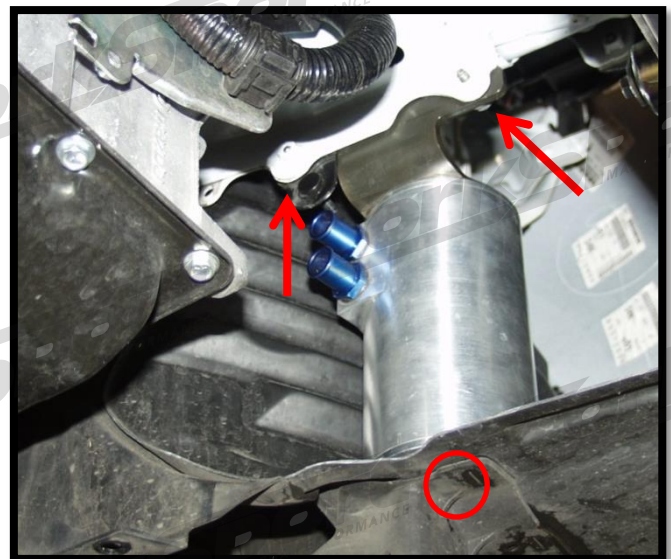

Figure 2e
- e) Install the catch can (as shown) using the two (2) supplied M6x1.0x20 bolts (Figure 2e).
- f) **OPTIONAL:** Drill a ¾" hole into the fender liner directly below the catch can for drain access (red circle in Figure 2e).
- e) **Install the catch can** (as shown) using the two (2) supplied M6x1.0x20 bolts (**red arrows** in **Figure 2e**).
- f) **OPTIONAL: Drill a ¼" hole** into the fender liner directly below the catch can for drain access (**red circle** in **Figure 2e**).